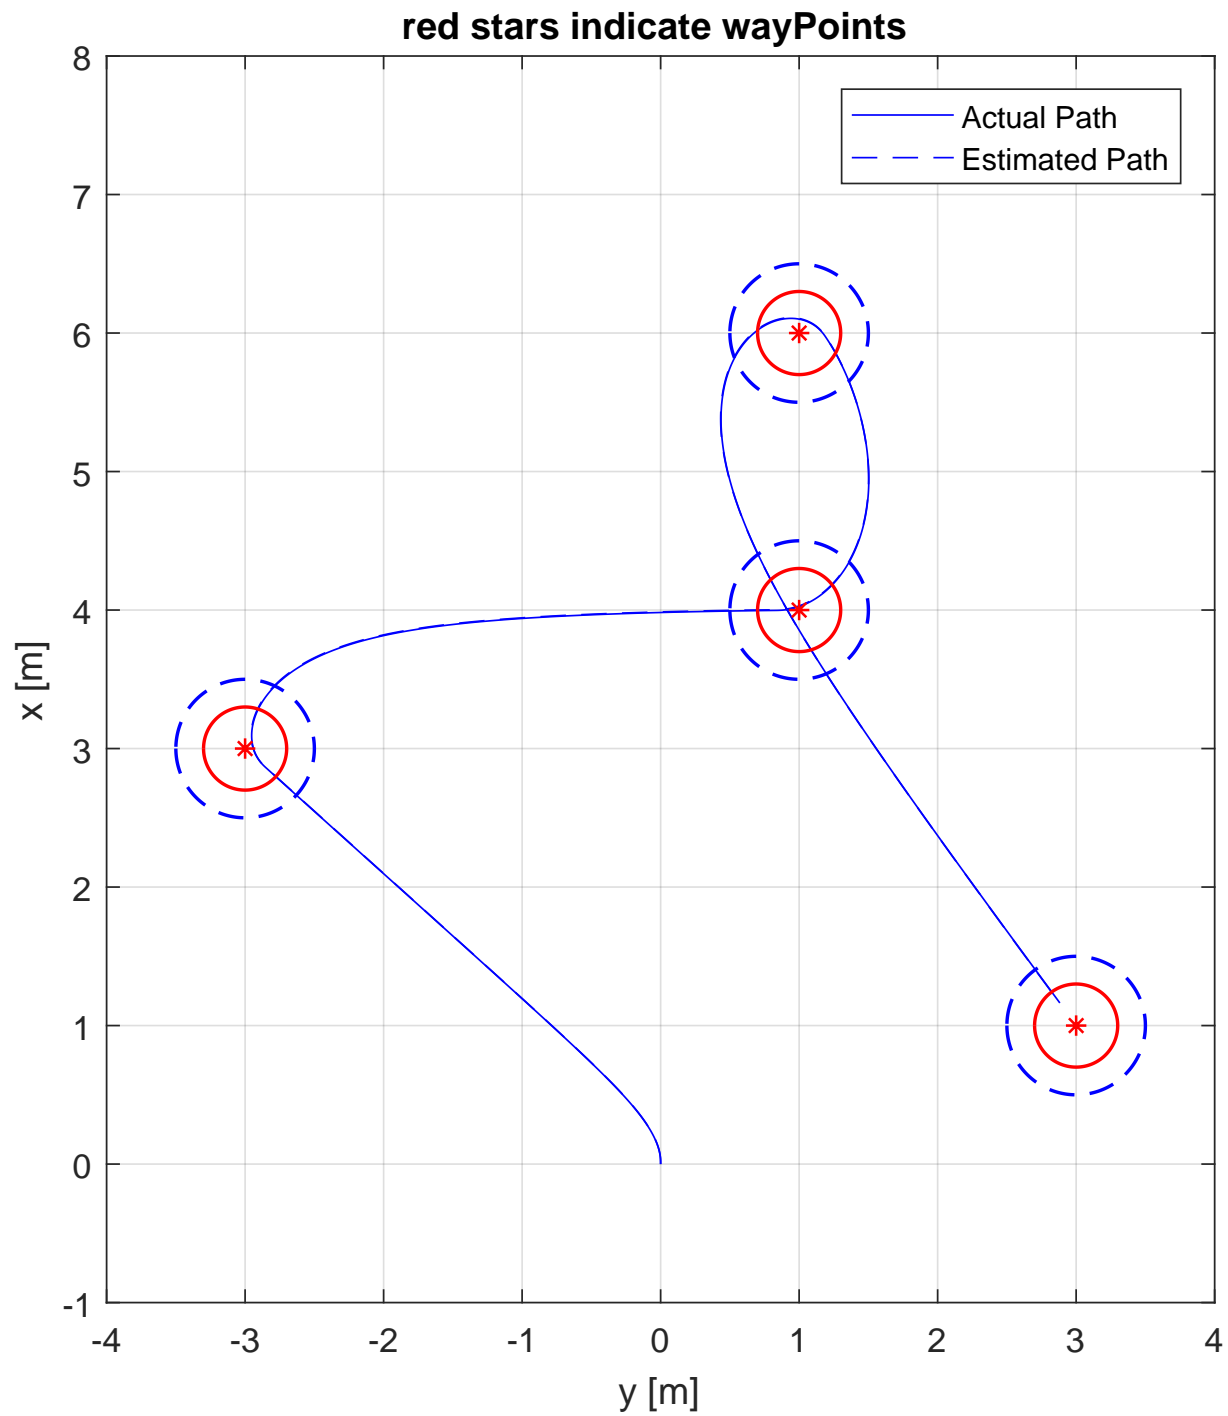
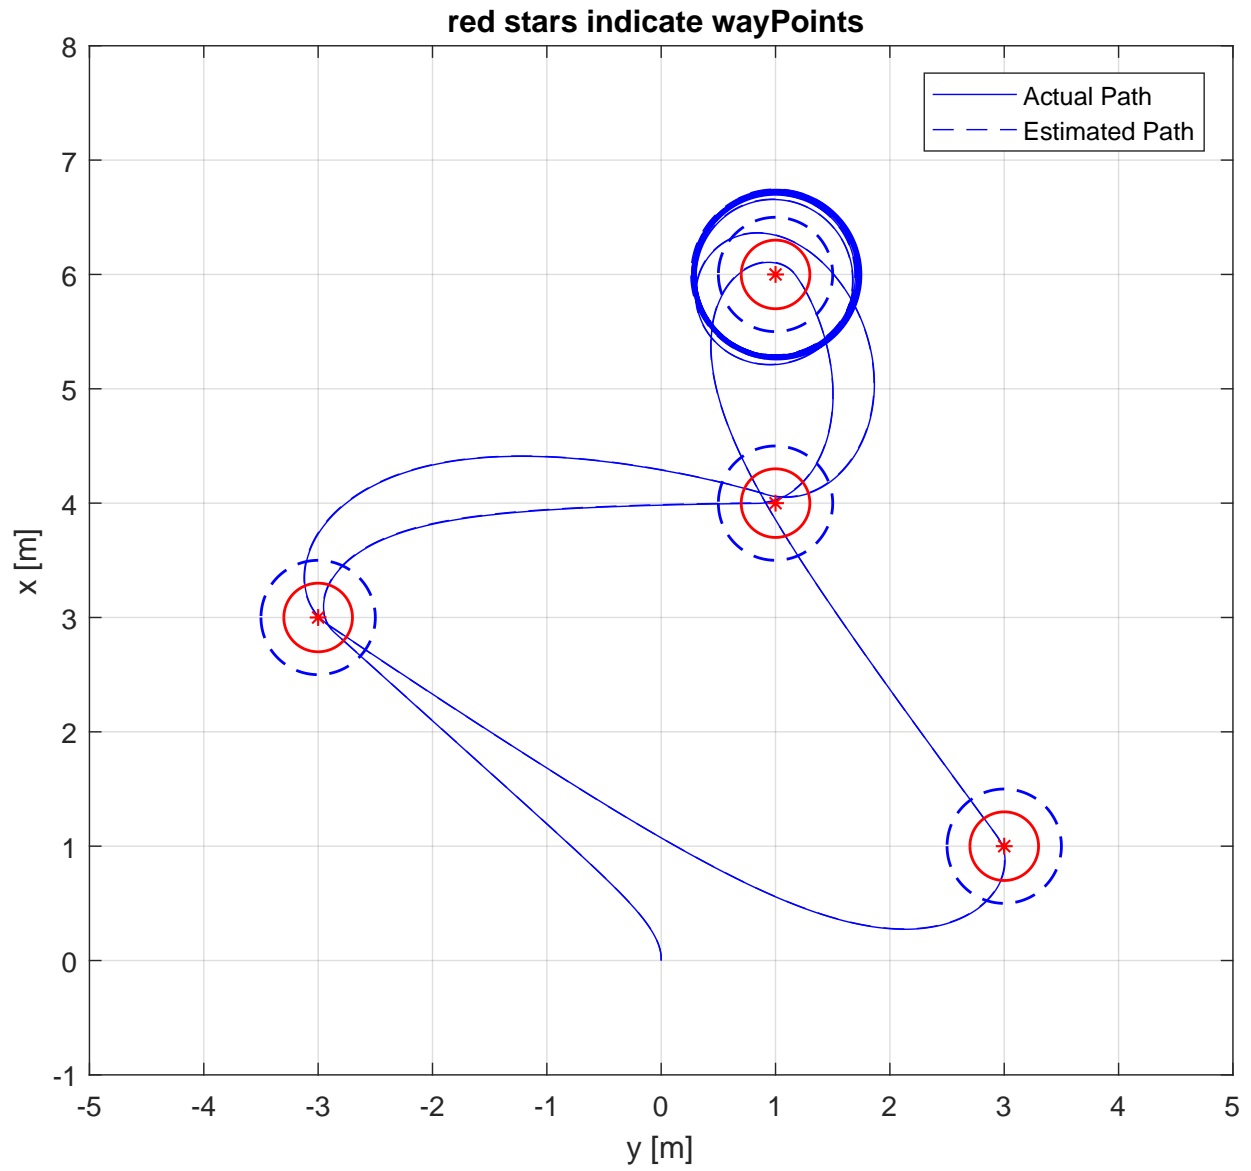

Figure 3: Simulation Result when oneLoop = 1
Figure 4: Simulation Result when oneLoop = 0
trackVehicleNewVer6b_Encoders_DR_GNC.slx when run in the default case, where the UGV moves through four wayPoints at (3,-3), (4,1), (6,1), and (1,3). You should run the simulink model in two cases: (1) Set constant to 1 in constant block “oneLoop” (see Fig. 3), and (2) Set constant to 0 in constant block “oneLoop” (see Fig. 4).